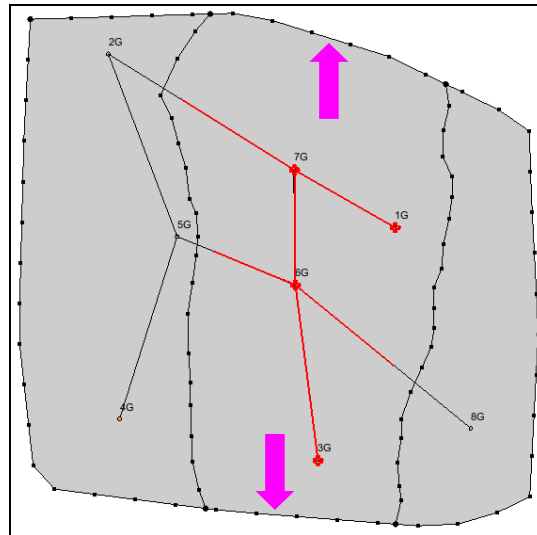

Figure 6 Outside-boundary arcs
1. Using the **Select** tool, hold down the *Shift* key and select the two arcs identified by the arrows shown in Figure 6.